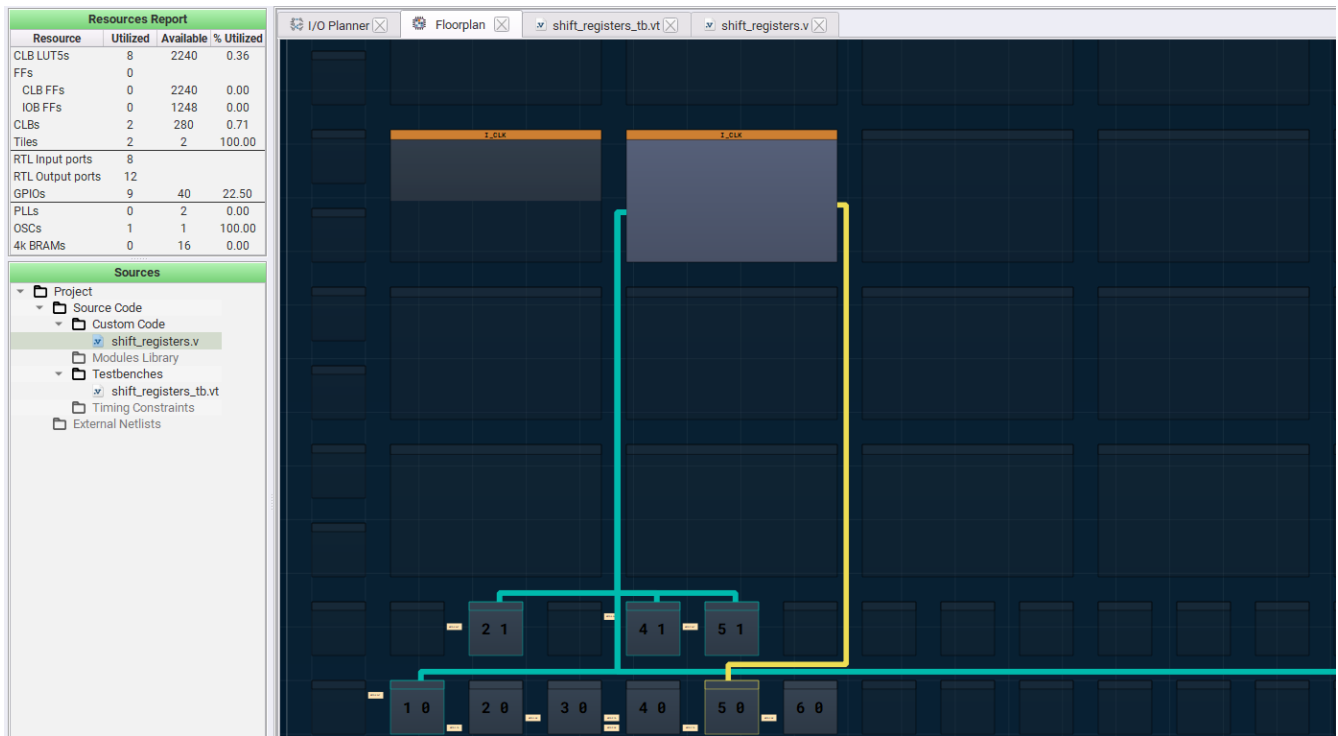
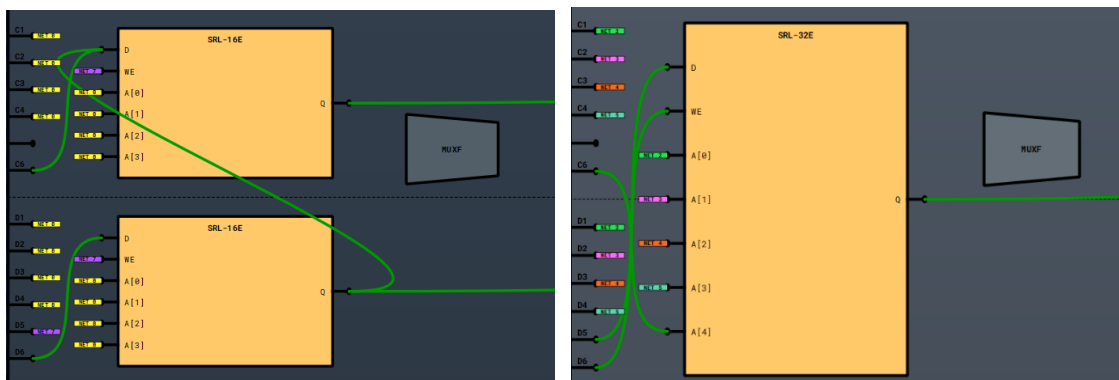

Figure 4. Distributed RAM CLB Utilization
Figure 5. SRLs shown in CLB
From the Floorplan window, we can see a part of the floorplan (Figure 4) for this document. Also, on the left corner of the figure, the user can see a mini resource needed list. From the Verilog code the user can observe that two 16-bit shift registers have been used to implement a 16-stage static shift register and a 32-stage static shift register, one 32-bit shift register has been used to implement a dynamic shift register. This can also be observed under the floorplan tab in the software (Figure 5).
- Click on the Floorplan tab and see the CLB utilization. Press the Ctrl and the mouse wheel to zoom-in (Figure 4). Confirm that the IOs in the IO Planner (Figure 7).